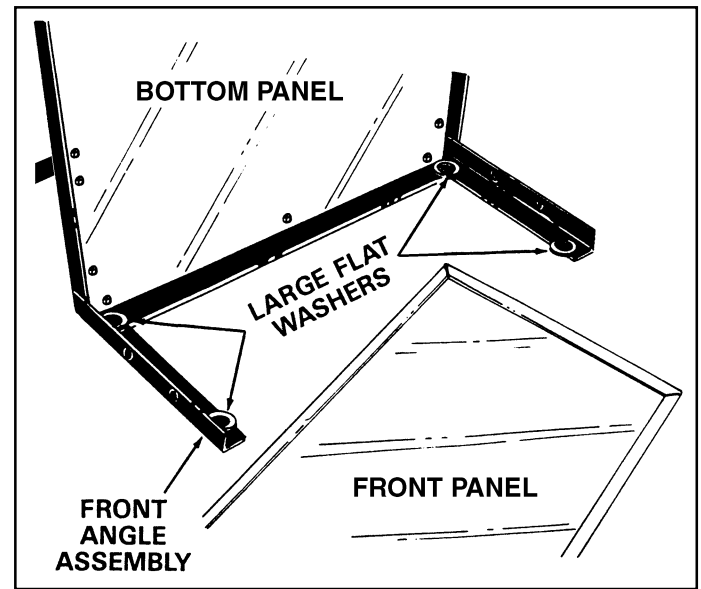

FIGURE 5
7. Stand the cart on end with the front angle assembly down on the floor. Temporarily place the four large 1-1/2" dia. flat washers (axle washers) on the inside of front angle assembly. See figure 5.